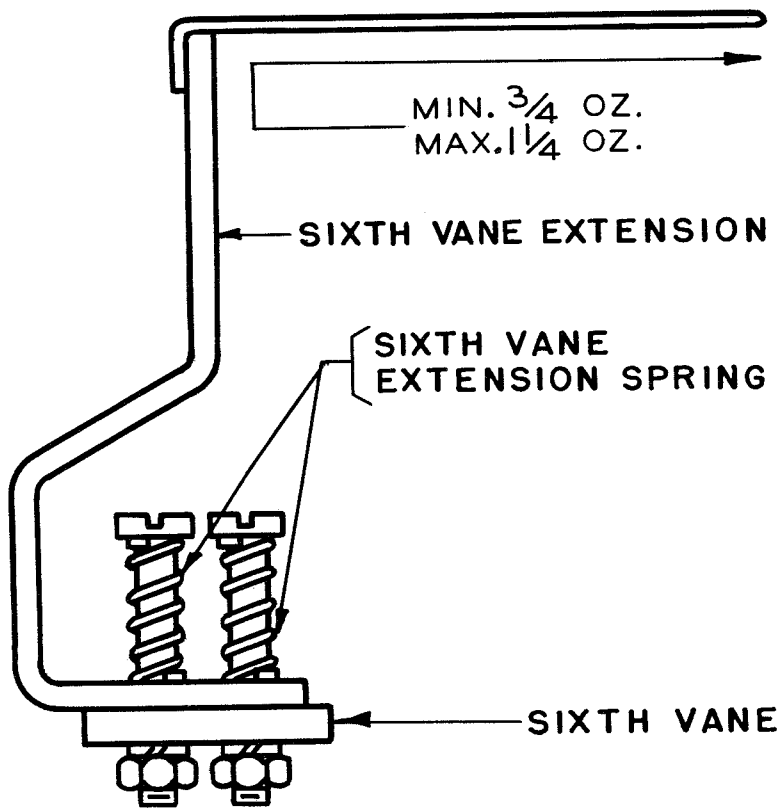

Figure 27
2.45 Sixth-vane Extension Spring, on units so equipped, should exert a pressure of minimum 3/4 ounce, maximum 1-1/4 ounces as the extension starts to move away from the vane when the vane is removed from the typing unit and is held in a horizontal position with the extension extending upward. See Figure 27.